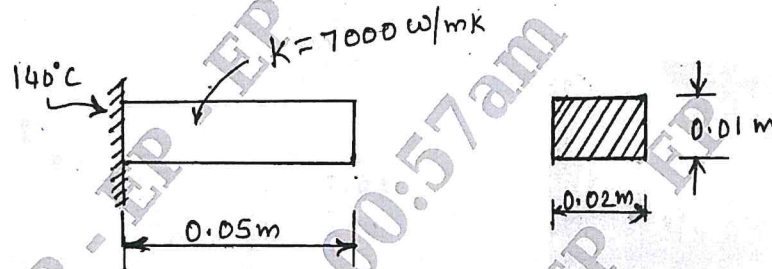

Fig.Q.7(b)
b. Determine the temperature distribution in the rectangular fin as shown in Fig.Q.7(b). Assume steady state and only conduction process. Take heat generated inside the fin as  $400 \text{ W/m}^2$ . (12 Marks)